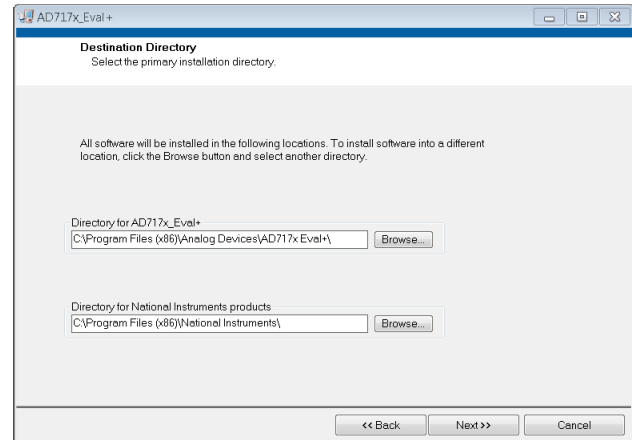

Figure 4. **AD717x Eval+** Installation, Selecting the Location for Software Installation
4. Select a location to install the software and click **Next**. Figure 4 shows the default locations displayed when the dialog box opens. To select another location click **Browse**.